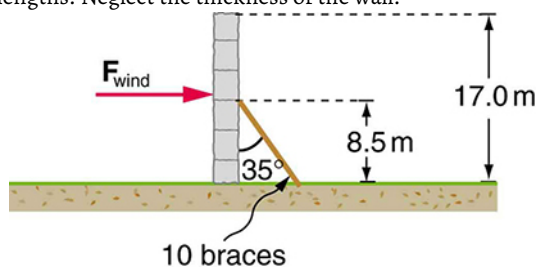

Figure 9.31
10. A 17.0-m-high and 11.0-m-long wall under construction and its bracing are shown in Figure 9.31. The wall is in stable equilibrium without the bracing but can pivot at its base. Calculate the force exerted by each of the 10 braces if a strong wind exerts a horizontal force of 650 N on each square meter of the wall. Assume that the net force from the wind acts at a height halfway up the wall and that all braces exert equal forces parallel to their lengths. Neglect the thickness of the wall.